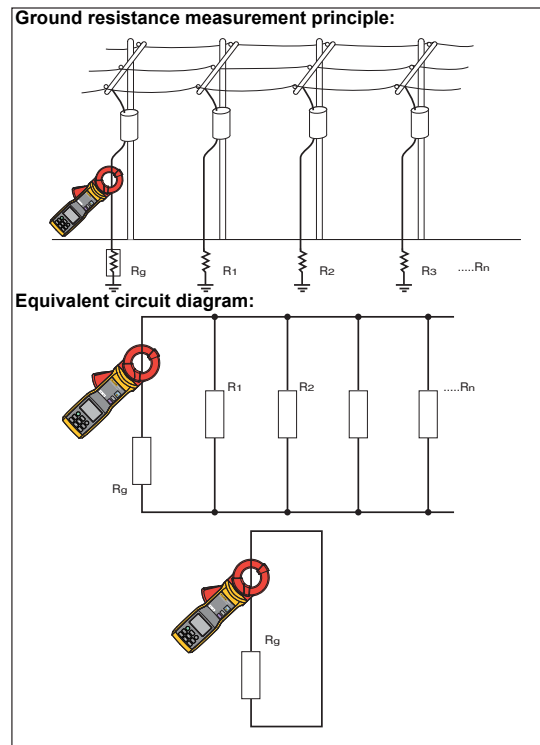

Figure 8. Ground Resistance Measurement Principles
5. Read the value of R_g (ground resistance) from the display. Figure 8 illustrates the ground resistance measurement principles.